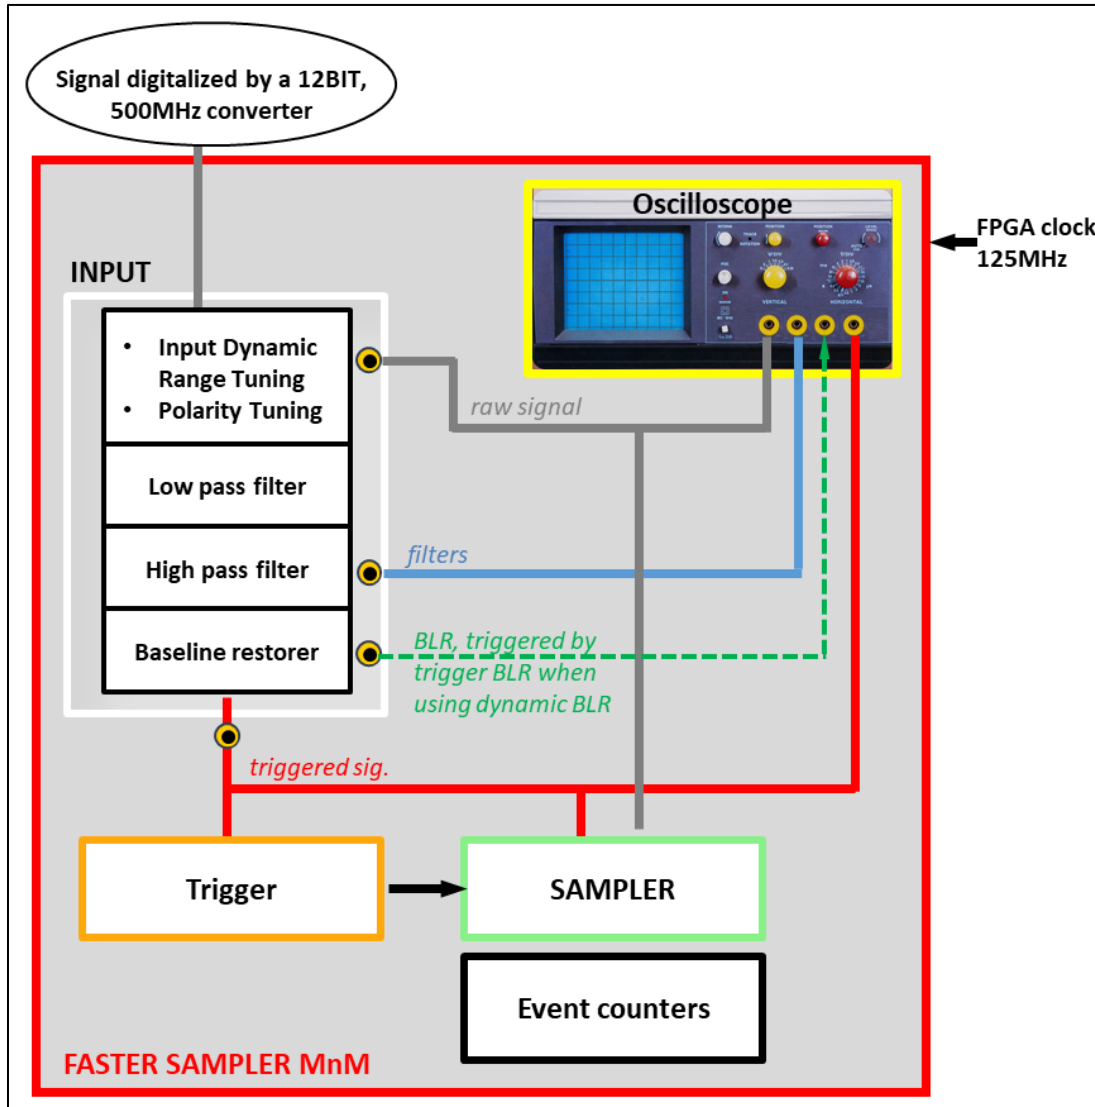
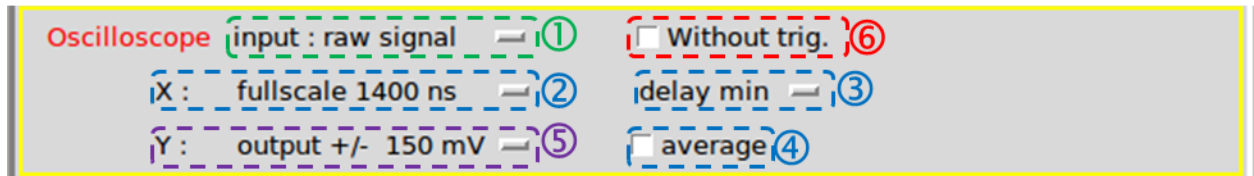
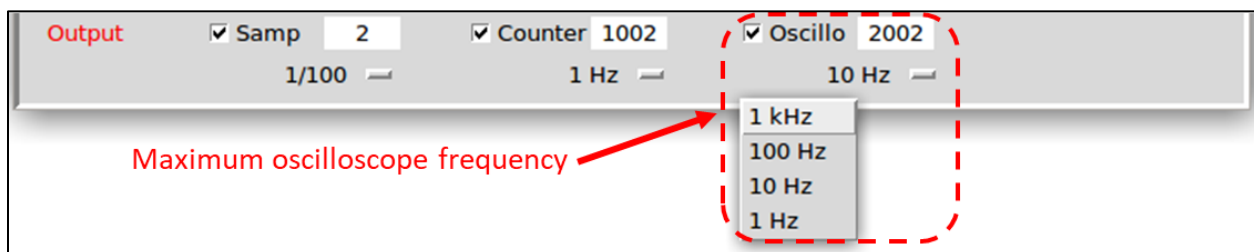

Figure 6: Diagram of FASTER SAMPLER MnM. The border colour of each box is as the one of the MnM interface.
Figure 7: Oscilloscope module.
Figure 8: Maximum frequency of the oscilloscope frame definition
The interface includes several tuning modules, synthetically described in Table 1 and Figure 6. Each module has some parameters that are adjustable by the user to achieve the best performance.
The signal, which is displayed by the oscilloscope module, is defined by parameter ① (Figure 7). Each ● on Figure 6 indicates the location of an Oscilloscope module input. The use case of this signal is described in Table 2.
If "without trig" is checked in ⑥ (Figure 7), Oscilloscope module does not use the Trigger module or BLR Trigger to start storing an oscilloscope frame, but it uses a clock, whose frequency is defined in the "Data output" module (cf. Figure 8).
If “without trig” is unchecked in ⑥ (Figure 7), the Oscilloscope module is woken either by the BLR trigger if the displayed signal is “trigger BLR”, otherwise by the Trigger module. In all case, the maximum oscilloscope frequency is defined by the Data output module.